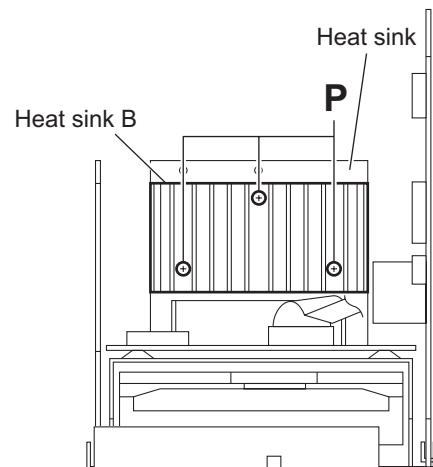

Fig.20
(See Figs.20 and 21)
- (1) From the front side of the main body, remove the three screws **P** attaching the heat sink B to the heat sink. (See Fig.20.)